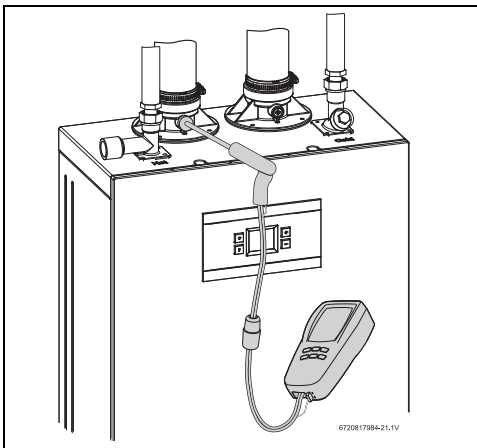

Fig. 60 CO₂ measuring port
- ▶ Remove the screw from the flue adaptor on the left side of the appliance, as seen in fig. 60.